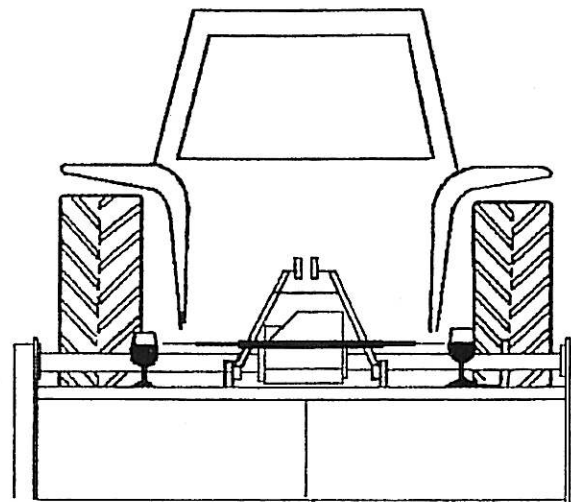

Fig. 7
- Adjust lower links to ensure Rotavator is horizontal laterally. See Fig 7.